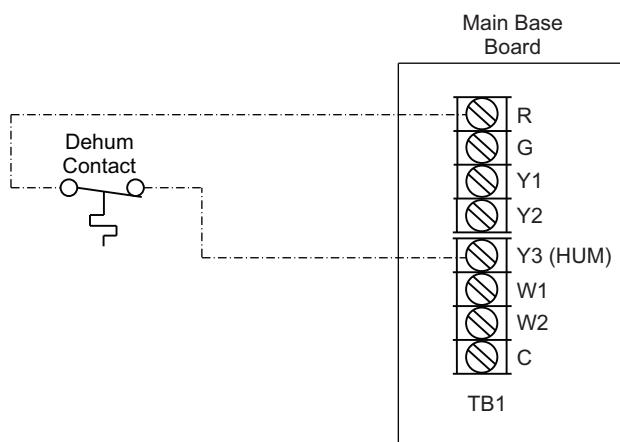

Fig. 42 – Humidistat Connections to MBB (SystemVu Units)
3. For SystemVu controller units connect one of the leads from the 2-conductor cable to the Y3 (HUM) terminal on the MBB (Main Base Board). Connect the other lead to the R terminal on the MBB. See Fig. 42.